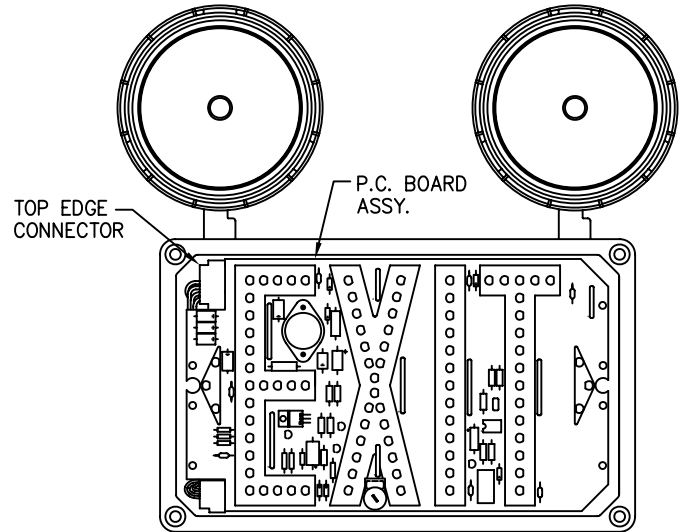

FIG. 1
3. Disconnect top edge connector from p.c. board assy. (Fig. 1). Carefully set pc assy. aside.